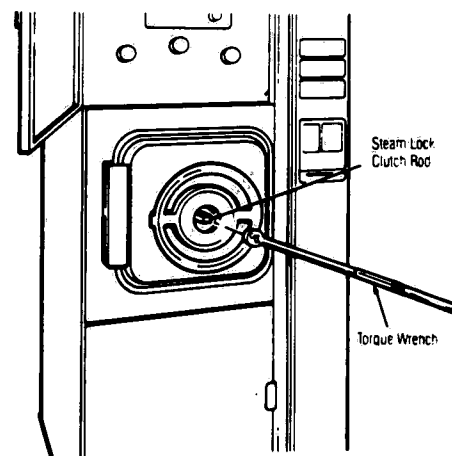

FIGURE 5-4 - Locking Door to Correct Torque
3. Remove center disc. Using a torque wrench on the steam-lock clutch rod, confirm that the torque is 20 ft-lbs on 16" units and 30 ft-lbs on 20" units. See Figure 5-4.